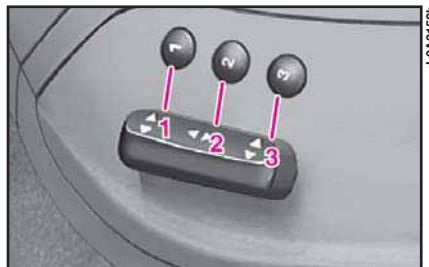

fig. 46
STORING THE DRIVER'S SEAT POSITIONS (fig. 46)
- press down for at least 3 seconds any of buttons “**1**”, “**2**” or “**3**” (**fig. 46**) used to store/recall the seat position;